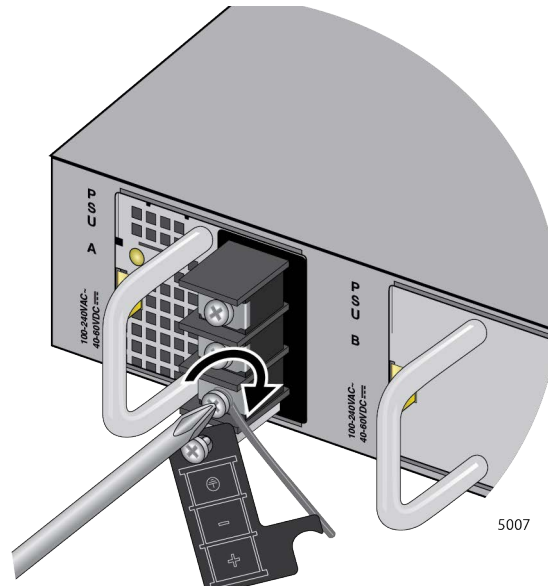

Figure 67. Wrapping the Grounding Wire and Tightening the Screw
5. Wind the grounding wire clockwise around the base of the grounding screw. Refer to Figure 67.